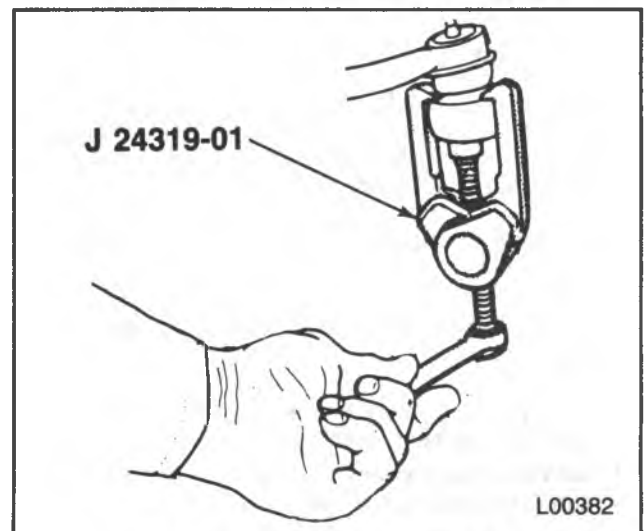

Figure 7 — Separating Steering Linkage
- Idler arm (1) from the relay rod (2). Use J 24319-01 (figure 7).
1. Inner tie rod (3) from the relay rod (2). Refer to "Tie Rod Replacement" in this section.
2. Nuts from the idler arm (1) and pitman arm (5) or relay arm (11) ball studs at the relay rod (2).
3. Relay rod (2) from the idler arm (1). Use J 24319-01 (figure 7).
4. Relay rod (2) from the pitman arm (5) or relay arm (11). Use J 24319-01 (figure 7).
2. Relay rod (2) or connecting rod (8) from the pitman arm (5). Use J 24319-01 (figure 7).